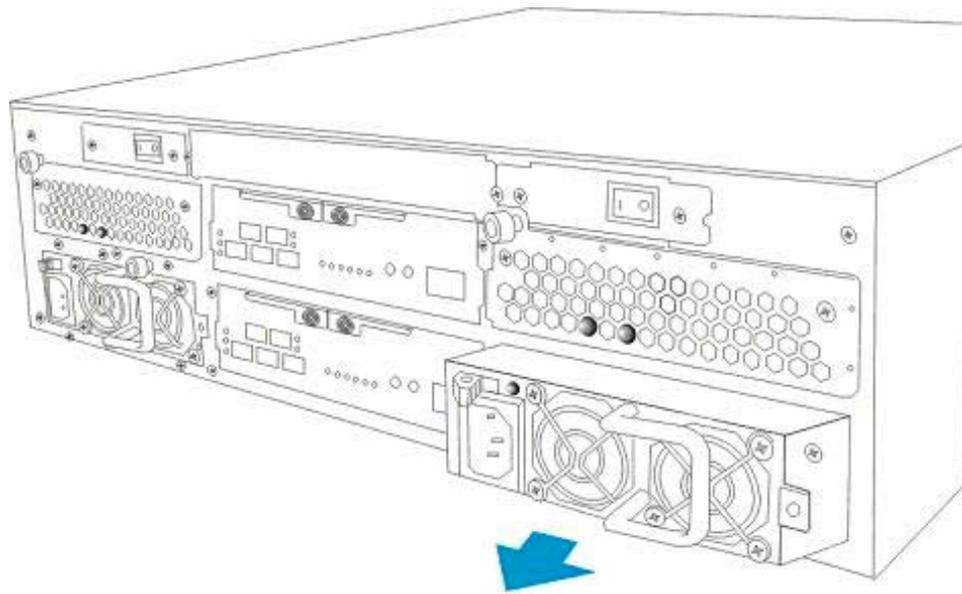

Figure 5-7: Removing the PSU from the Subsystem
Step 5. After the PSU module has been dislodged from the enclosure, use the handle at the rear of the PSU to *gently pull the PSU module out of the enclosure*. (See *Figure 5-7*)